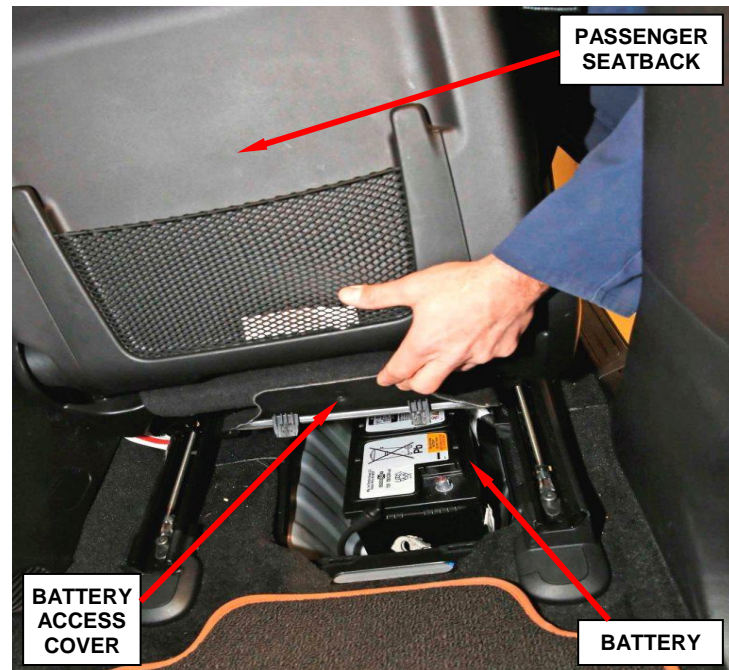

Figure 2 – Battery Access
2. Open the battery access cover located under the passenger front seat and disconnect the negative battery cable (Figure 2).